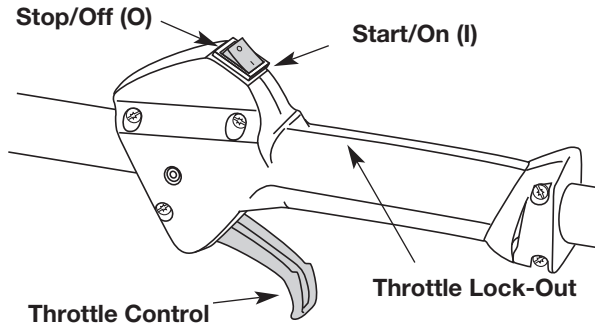

Fig. 19
**NOTE:** There is no need to turn the unit on. The On/Off Stop Control is in the ON (I) position at all times (Fig. 19).